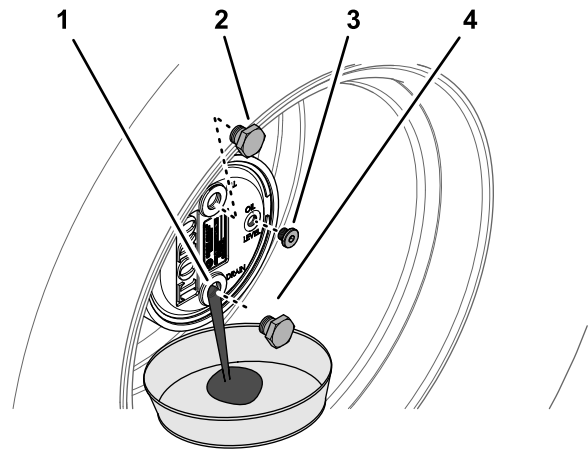

Figure 67
2. Remove the fill plug at the 12 o'clock position and the check plug at the 3 o'clock position (Figure 67).
3. Place a drain pan under the planetary hub, remove the drain plug at the 6 o'clock position, and allow the oil to fully drain (Figure 67).
5. Install the drain plug into the drain hole of the planetary housing (Figure 67).